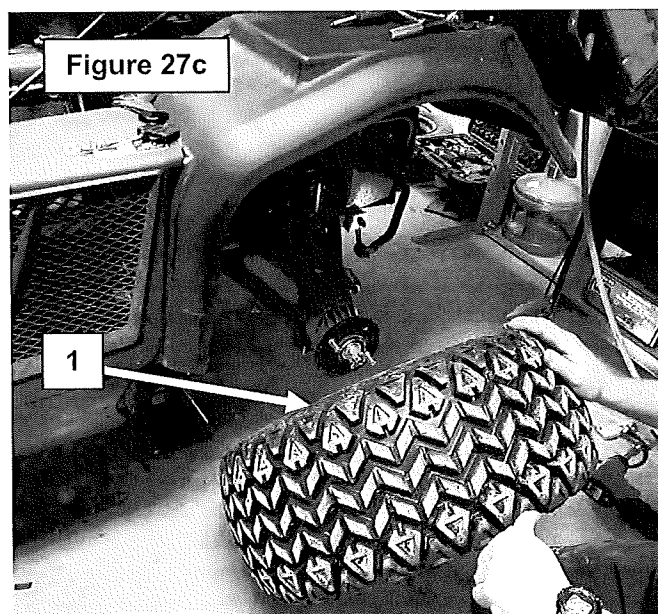

Figure 27c
10. **Figure 27c:** Remove the rear wheel on the driver side (item 1).